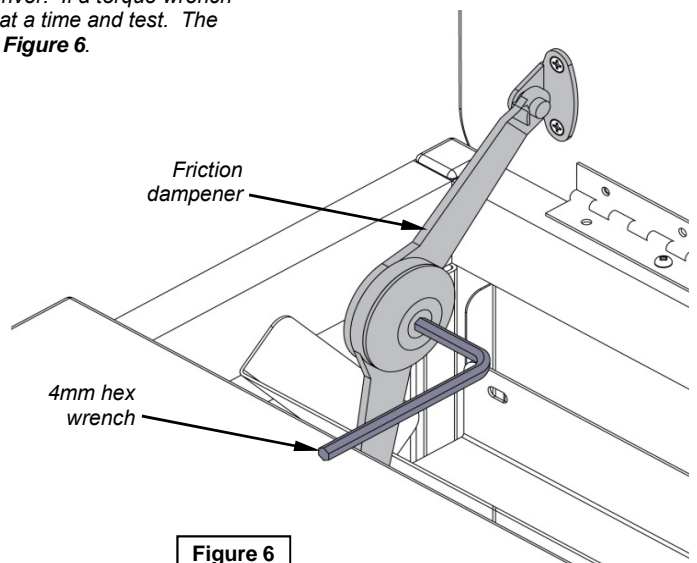

Figure 6
- After approximately 300 cycles of opening and closing, the friction dampener on the work surface lid should be retightened to 13 in-lbs using a torque wrench with a 4mm hex driver. If a torque wrench is unavailable, tighten the friction damper with a 4mm hex wrench 1/8 turn at a time and test. The correct adjustment is when the lid slows down between 2-4" from closure. **Figure 6.**